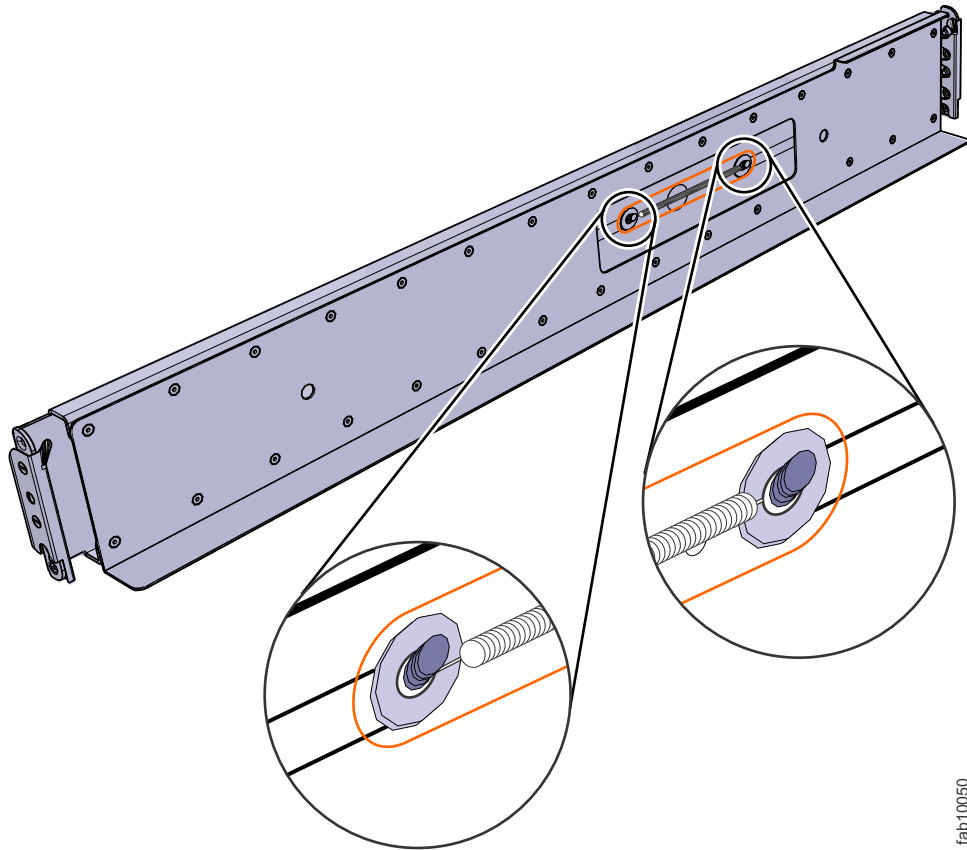

Figure 9. Installing the rail spring
- b. Push one looped end of a spring over one stud on the inside of the rail. (See Figure 9 on page 14.)